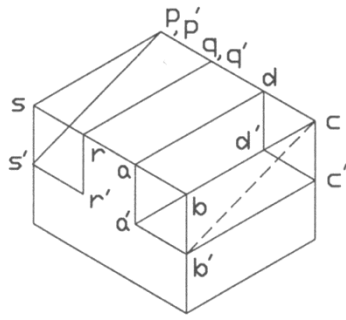

Figure 6.14: Shifting of Surfaces View
- (3) Next shifting of the necessary surfaces is made keeping conformity with the views. Surface  $a-b-c-d$  has been shifted to the new position  $a'-b'-c'-d'$  and surface  $p-q-r-s$  has been shifted to the new position  $p'-q'-r'-s'$  (Figure 6.14).